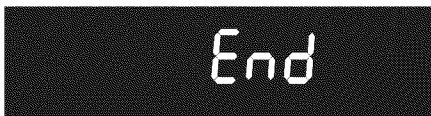

Figure 32: Display showing cooking has ended
**End** will appear in the display window and the oven will shut-off automatically (Figure 32). The oven control will beep 3 times every 30 seconds as a reminder until  is pressed.
**End** will appear in the display window and the oven will shut off automatically (Figure 32). The oven control will beep 3 times every 30 seconds as a reminder until  is pressed.